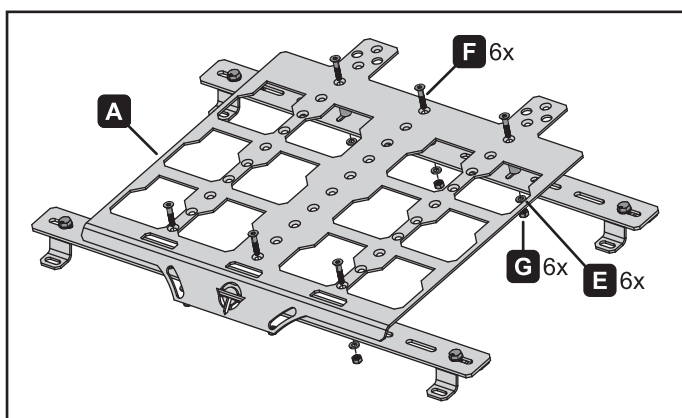

Figure 3.
7. Position the main plate (A) on top of the spacers. Adjust as needed to align the holes in the plate with the spacers (figure 3).
8. Insert socket head screws (F) into the aligned main plate holes. Carefully lower the plate with screws installed onto the spacers, ensuring all six fasteners line up (figure 3).
9. Loosely install the locking nuts (G) and washers (E). Do not fully tighten.
7. Position the main plates (A) on top of the spacers. Adjust as needed to align the holes in the plate with the spacers (figure 3).
8. Insert socket head screws (F) into the aligned main plate holes. Carefully lower the plates with screws installed onto the spacers, ensuring all six fasteners line up (figure 3).